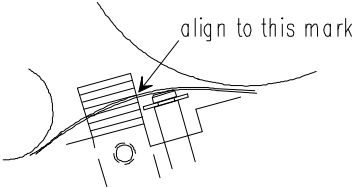

Figure 2
the tool. This setting is equivalent to 4.0 +/- 0.5 mm belt deflection (see Figure 2).
- d. Measure the deflection of the belt as described above and ensure that the deflection of the belt is at the 4th mark (+/- 0.5 mark) (see Figure 2).